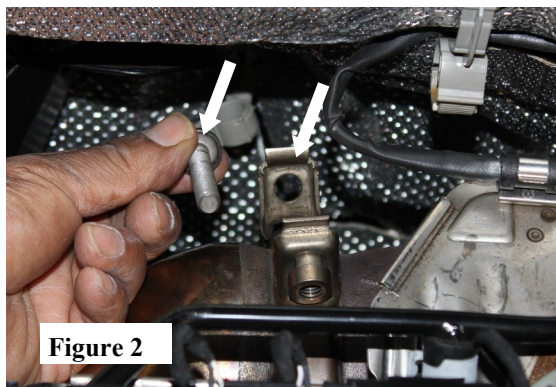

Figure 2
2. Remove (1) bolt using a 3/8 allen wrench from clamp ring and remove from vehicle. (See Fig. 2)